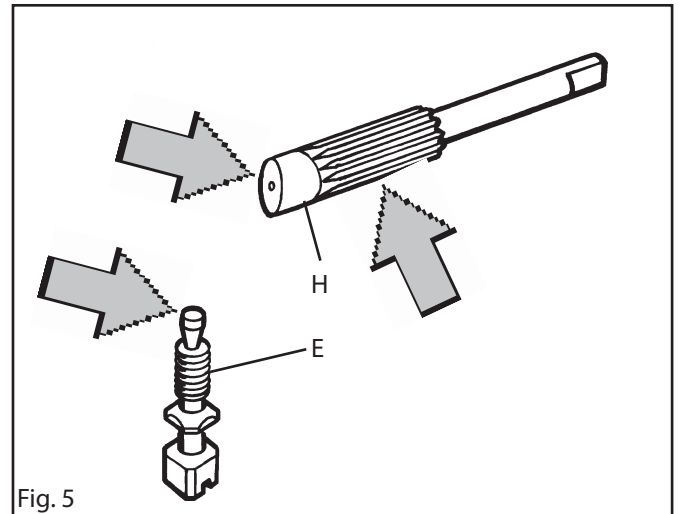

Fig. 5
1. Lining thickness on the clutch shoes should not be less than 3 mm in the most worn area. See fig. 5. In order to avoid imbalance, all clutch shoes should be replaced at the same time.
1. The taper on the adjustment screw (E) does not show signs of wear. See fig. 5.
2. The pump piston (H) eccentric face does not show signs of wear. See fig. 5.
3. The pump piston pinion is undamaged. See fig. 5.
In idling mode (fig. 5) the throttle butterfly (H) is closed. Air is sucked through an aperture in the butterfly and a small amount of fuel is supplied through the diffuser jet (G).